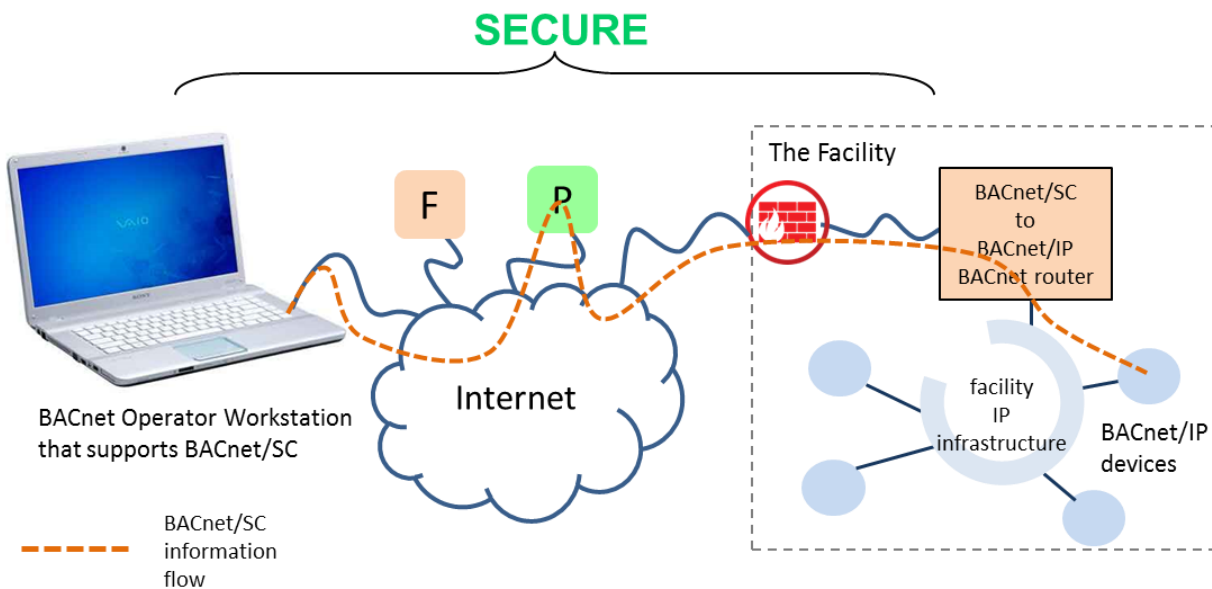

Figure 1: Secure Access from Outside the Facility
- BACnet/SC hub ("P" in Figure 1) outside of the facility
- (Optional) BACnet/SC failover hub ("F" in Figure 1) also outside of the facility